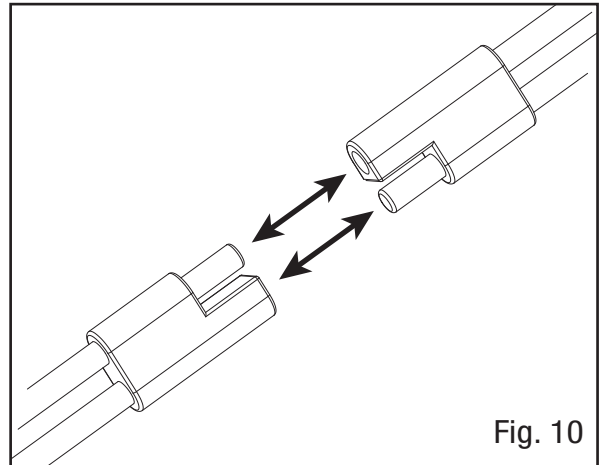

Fig. 10
2. Connect the battery cable as shown in Fig. 10